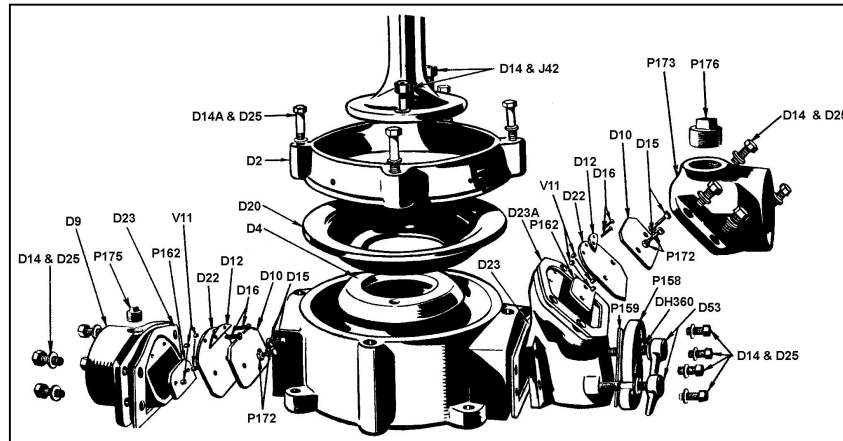

Figure 3
- ❖ **Never leave liquid in the pump casing. Drain the casing immediately through the drain plug (figure 3, #P158). During winter months and cold weather, the liquid could freeze and damage the pump casing. If the liquid is hazardous, take all necessary precautions to avoid damage and injury before emptying the pump casing. From time to time, turn the shaft to avoid encrustation inside the pump.**